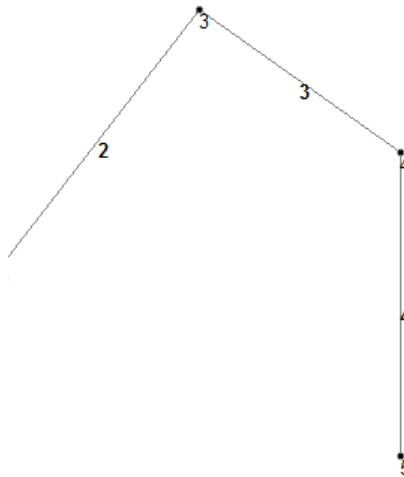

Figure 2-9 Members created to complete the structure
Step 3: Choose the **Save** button from the **File** menu in the **STAAD Editor** window and then close the window; the members are generated. Press SHIFT+B to view the member numbers, refer to Figure 2-9.